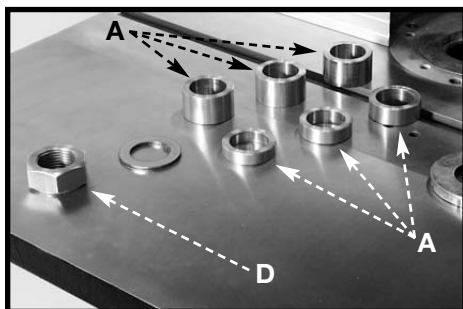

Fig. 13
2. Determine which, if any, collars are needed. Then attach the cutter (B) Fig. 14, keyed washer (C), and spindle nut (D) Fig. 13). Place one wrench on the flats (A) Fig. 15 on top of the spindle and one wrench on the spindle nut (D). Tighten as shown in Fig. 15.